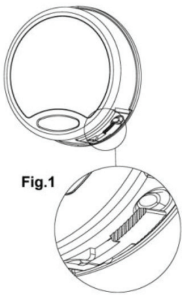

Fig.1
– Put the battery compartment back into the entry pad. Push up the latch of the battery compartment until it snaps closed, **see Fig.1.**